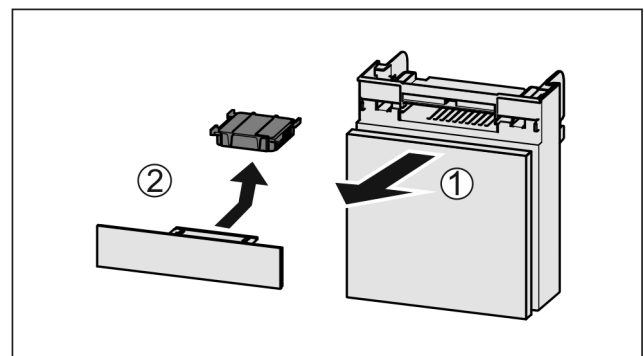

Fig. 128
- Pull out the compartment Fig. 128 (1).
- Remove the carbon filter Fig. 128 (2).